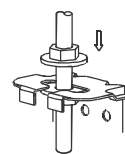

Fig.5-5
- Locate the air conditioner firmly by wrenching the nuts after having adjusted the body's position well.(Refer to Fig.5-5)